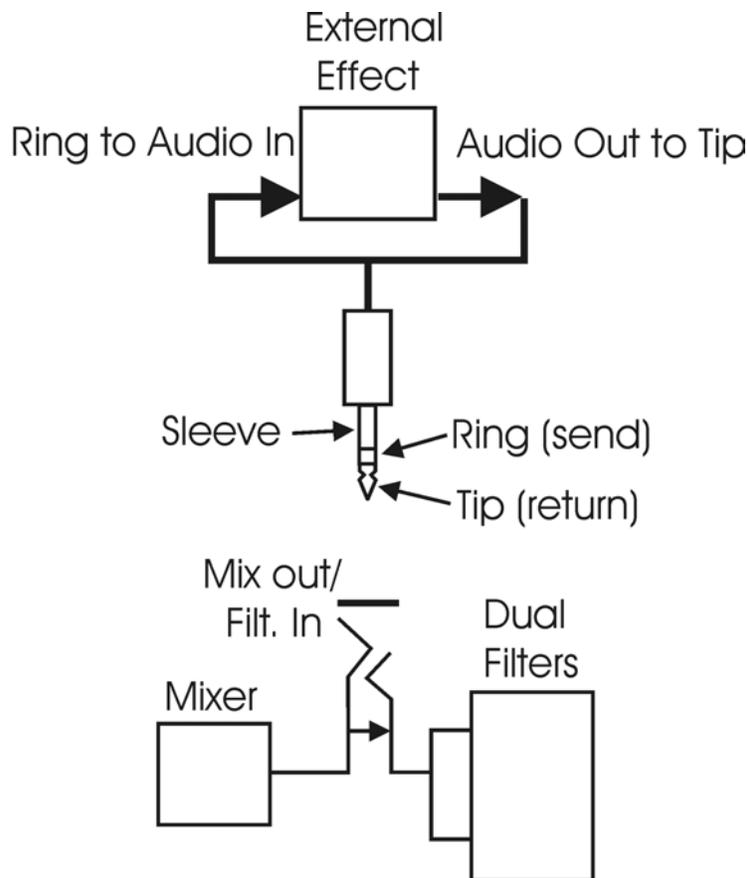

figure 17
**MIX-OUT LOOP:** The jack on the back labeled "mix out/filter in" is an insert point between the Mixer output and the filter input. Using a standard insert cable an effect such as a moogerfooger MF-102 Ring Modulator can be inserted to add effects to the oscillator, noise source, and external audio in prior to the filter stage. The Mixer output signal send appears at the tip of the jack. The return signal appears at the ring of the jack. A cable plugged into the jack breaks the connection between the mixer and the filter, Unless the Return signal is sent to the ring of the jack, no signal will pass through to the filter. The level settings in the mixer affect the output level, so keep this in mind as you try different devices in this loop. This insert point is a great spot to insert a distortion or waveshaping device, a phaser, ring modulator, or delay effects (figure 17).